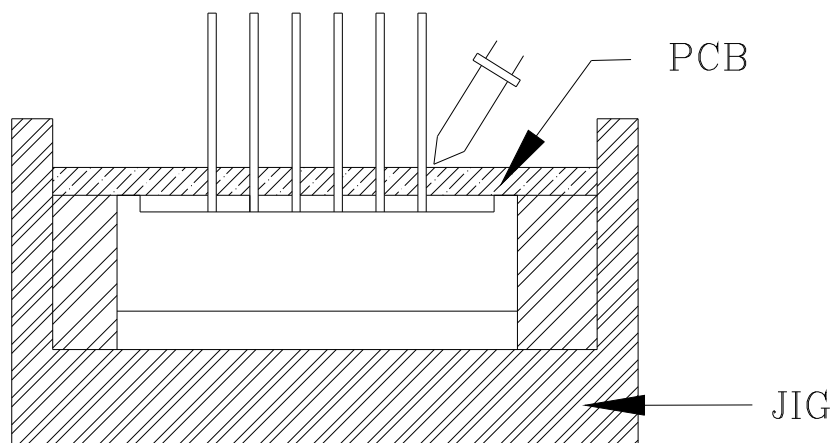

Fig.1
- 1) When soldering the PIN of Display in a jig that the package is fixed with a panel (See fig.1), be careful not to stress the PIN with iron tip. When soldering Display in a condition that the package is fixed with a panel, be careful not to cling and stress the surface of Display on the panel to avoid damaging the Display.